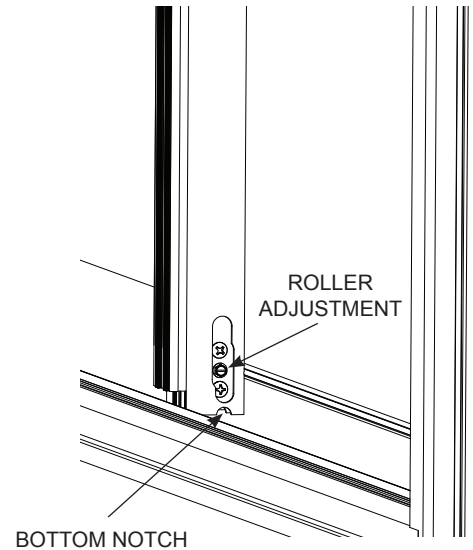

FIG. 41
2. Adjust rollers on both doors until frames are level and flush, and roll freely. (FIG. 41)